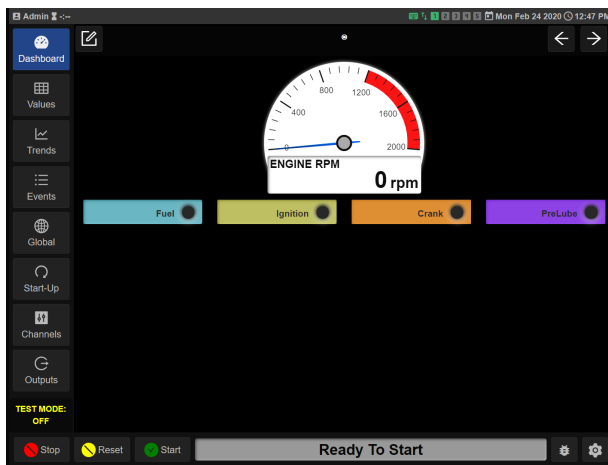

Figure 3.2 – Dashboard page
- 3.2 **Dashboard** — The Dashboard page is displayed on the HMI screen upon system power-up. This is the home page of the DE-4000. The initial view is shown in Figure 3.2.